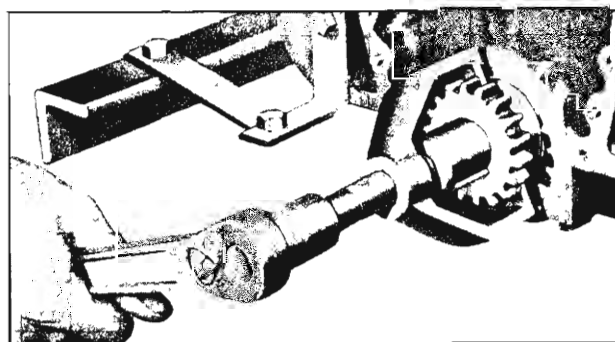

Fig. 158—Removing Crankshaft Sprocket
22. Remove crankshaft sprocket using Tool J-5825 (fig. 158).